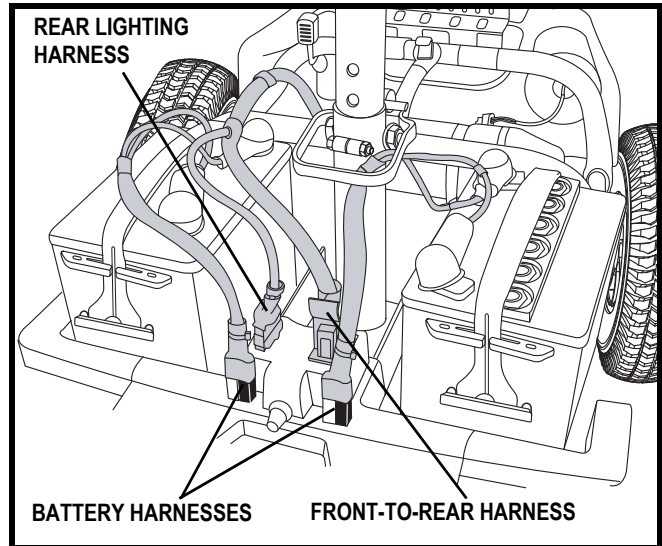

Figure 22. Harness Connections
5. Unplug the front-to-rear and rear lighting harnesses by squeezing the sides and pulling straight up. See figure 22.
6. Unplug both battery harnesses. Pull each harness straight up. See figure 22.
6. Connect the front-to-rear harness, rear lighting harness, and both battery harnesses. See figure 22.